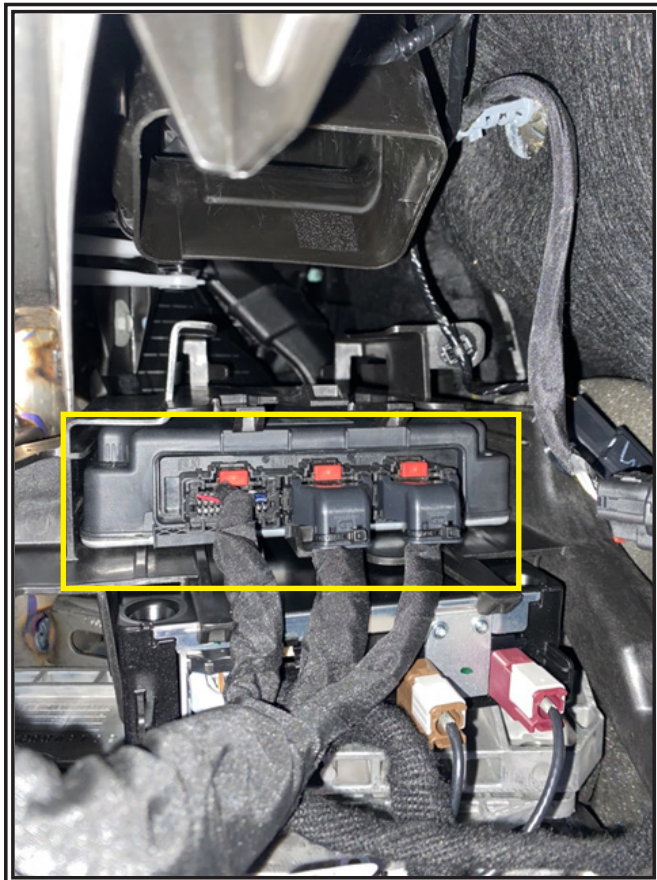

Figure 3
Step 4. Locate the serial gateway module shown in Figure 3.
Step 5. Remove the black connector shown in the far left position in Figure 3.